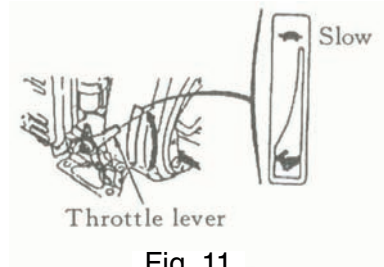

Fig. 11
1. Push the throttle lever up to the SLOW position (Fig. 11).